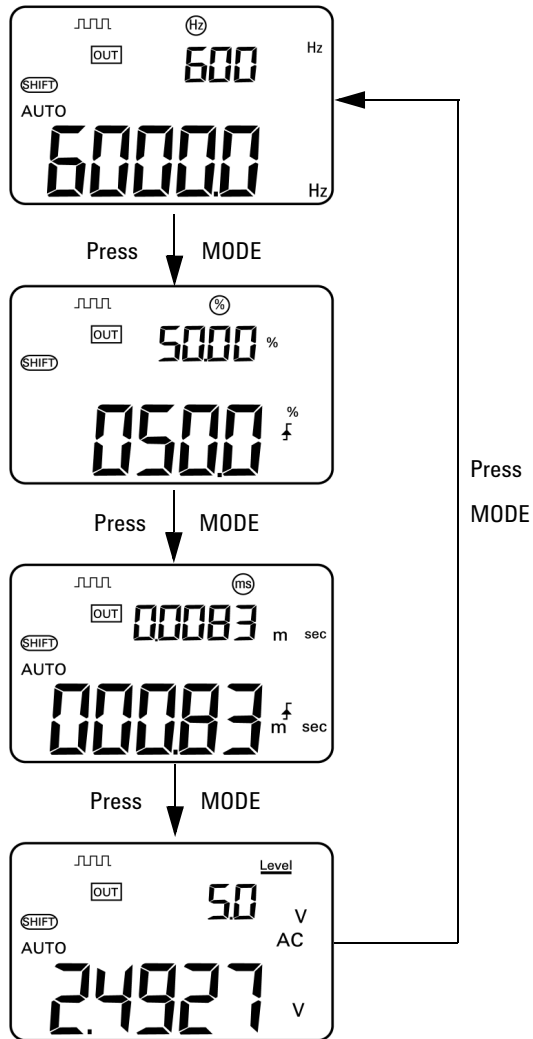

Figure 2-7 Parameter selection for square wave output
- The default settings for the parameters are 150 Hz (frequency), 50.00% (duty cycle), 3.3333 ms (pulse width), and +5 V (amplitude). See Figure 2-7.